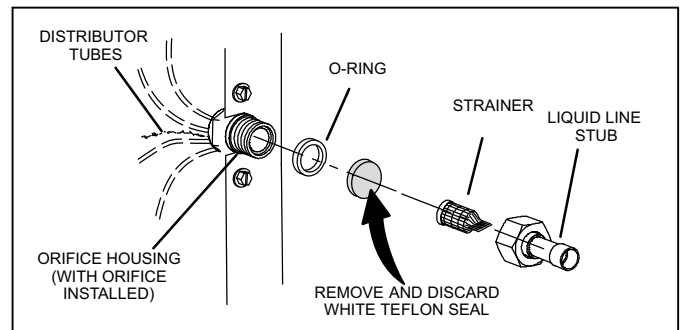

Figure 5. Typical Fixed Orifice Removal
4. Remove and discard orifice, valve stem assembly if present and Teflon ring as illustrated in figure 5.